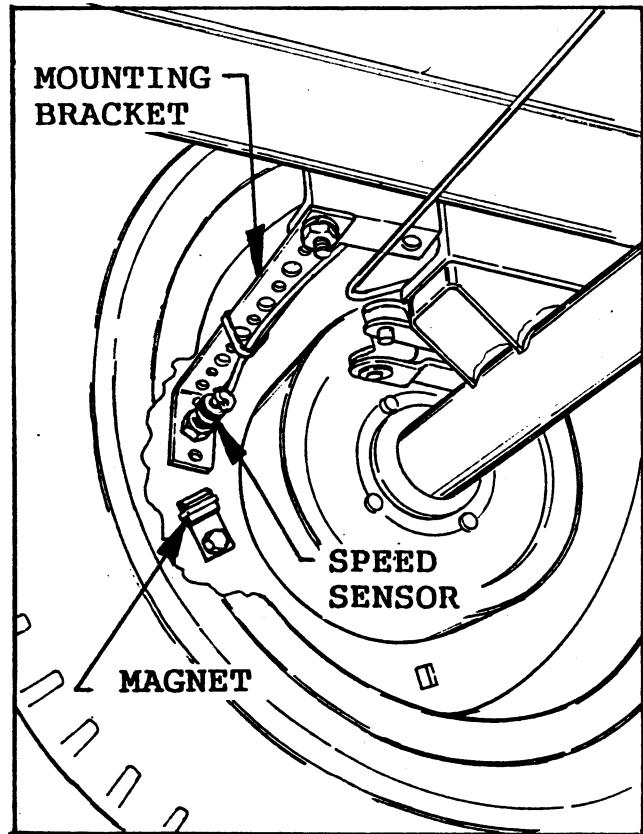

FIG. 11
- Secure the mounting bracket to the lug on the Vehicle frame with a 1/4" bolt, flat washer, lock washer and nut as shown in FIG. 11.